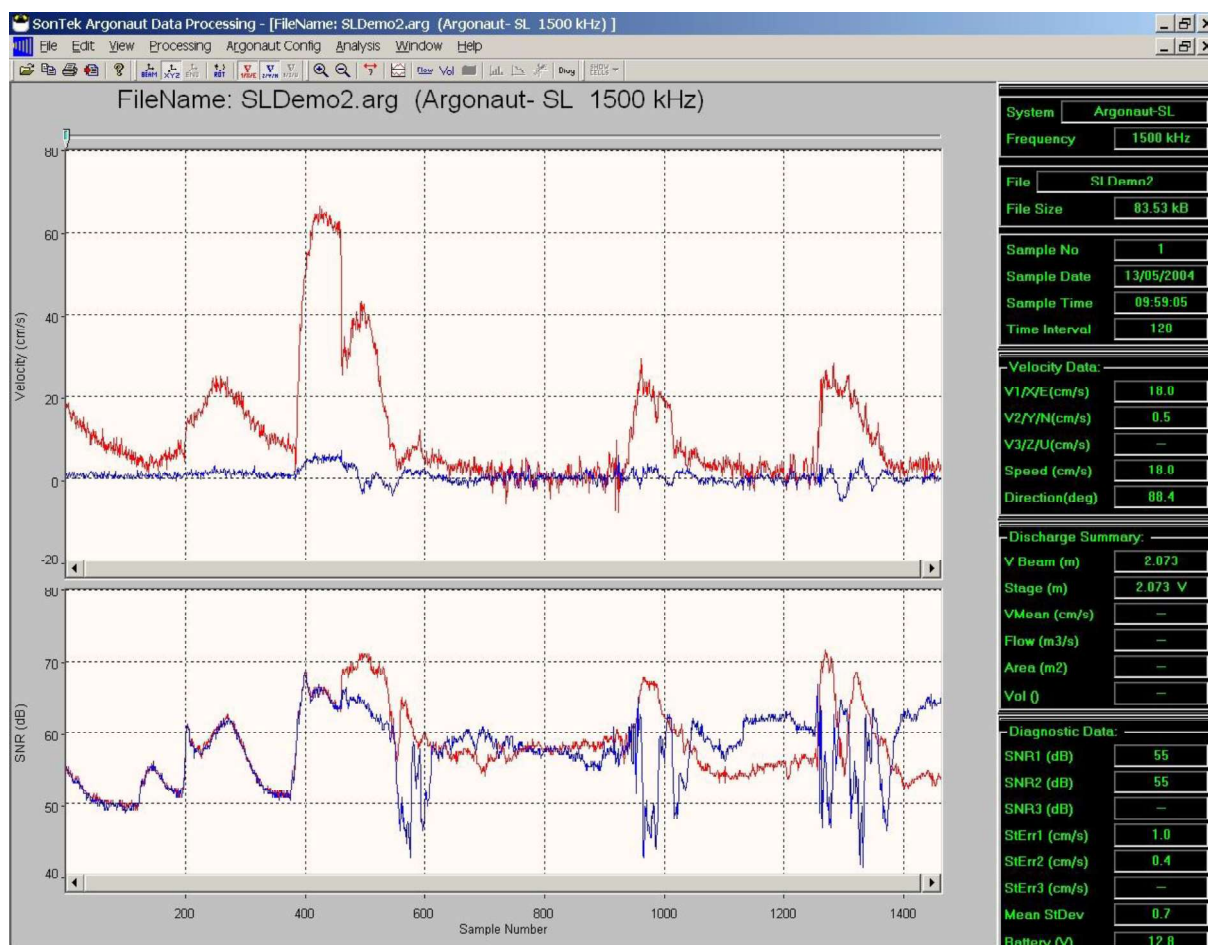

Figure 6-7. Sample Data File 2(SLDemo2.arg) – Velocity and SNR
The SLDemo2.arg data file represents five days of data collected with a 1500-kHz SL with a measurement range of about 5 m in a small river. Flow in this river is fairly low except during rain events. Figure 6-7 shows graphs of velocity (top) and SNR (bottom) over the 5-day period.
- As with the changes in SNR seen earlier in **Figure 6-7**, the jumps in stage are a cause for concern. This will be addressed next.